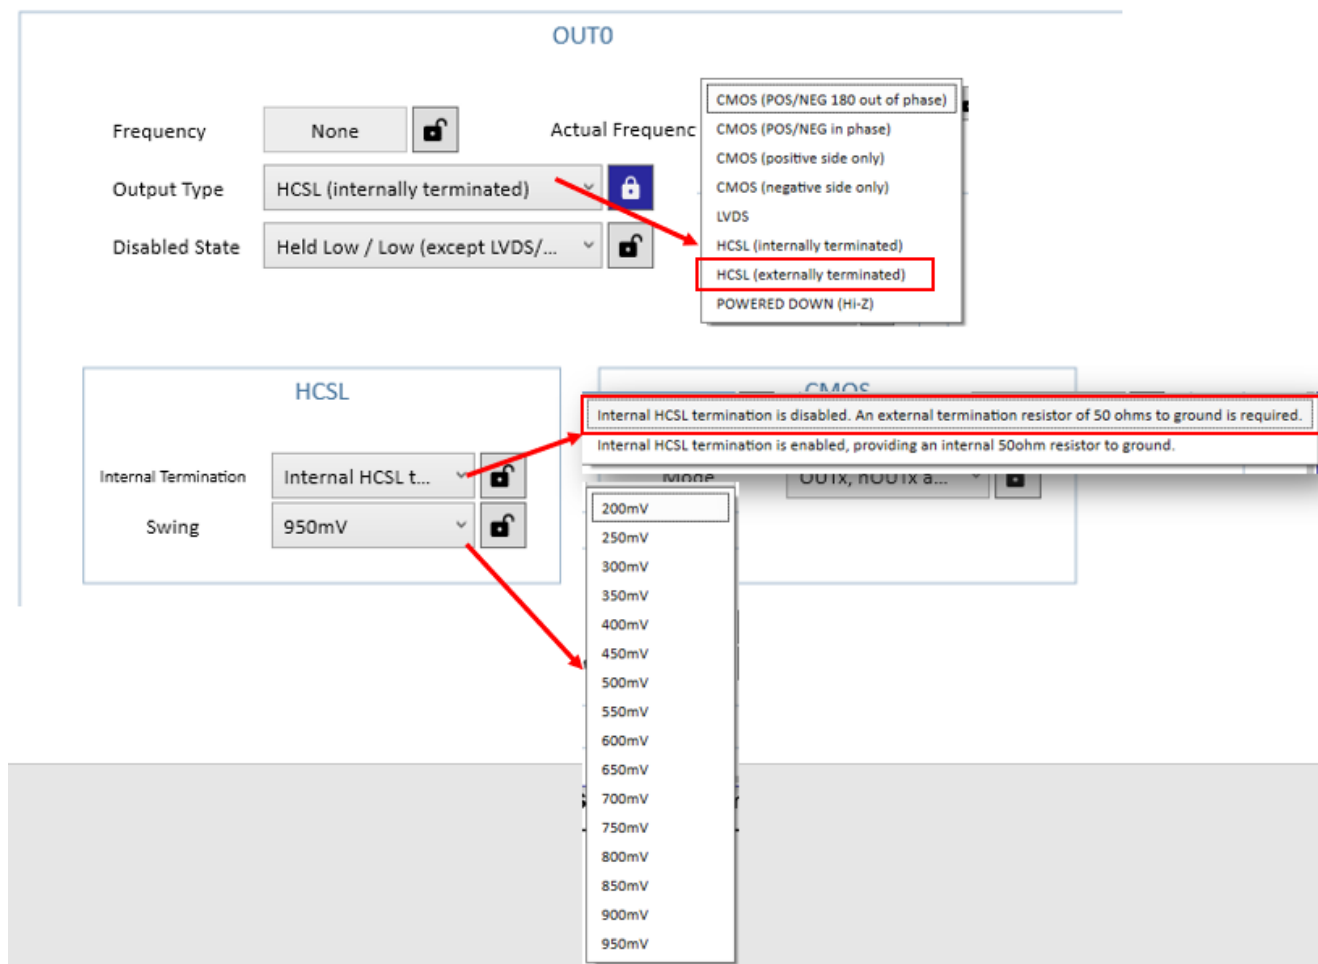

Figure 9. HCSL External Termination Setting in RICBox
- When the **Output Type** selected is *HCSL (externally terminated)*, the GUI automatically sets the **Internal Termination** to disabled (see Figure 9).